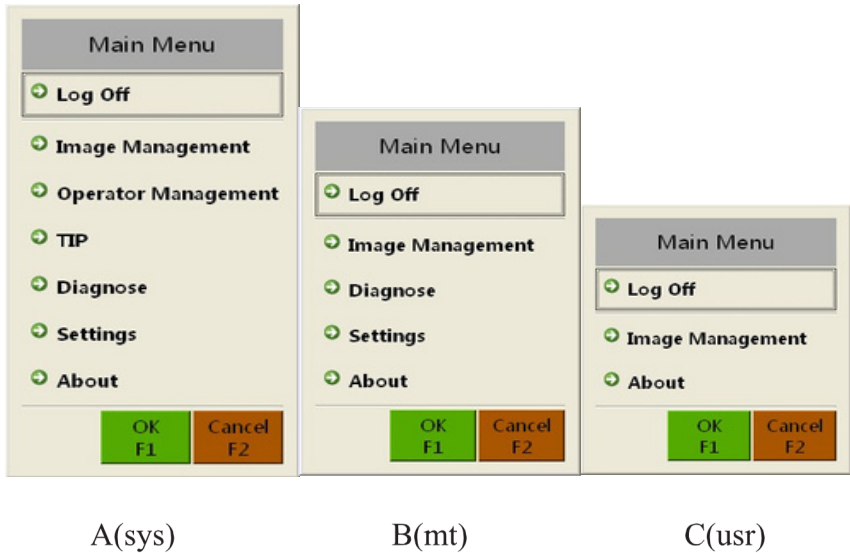

Fig 6.1 Menu Operation Authority
**Functional Permission of Operation Group (usr):** Logout, Image Management and About, as shown in Fig 6.1-C (usr).
**Functional Permission of Maintenance Group (mt):** Logout, Image Management, Diagnosis, Settings and About, as shown in Fig 6.1-B (mt).
**Functional Permission of System Administrator Group (sys):** Logout, Image Management, Operator Management, TIP, Diagnosis, Settings and About, as shown in Fig 6.1- A (sys)